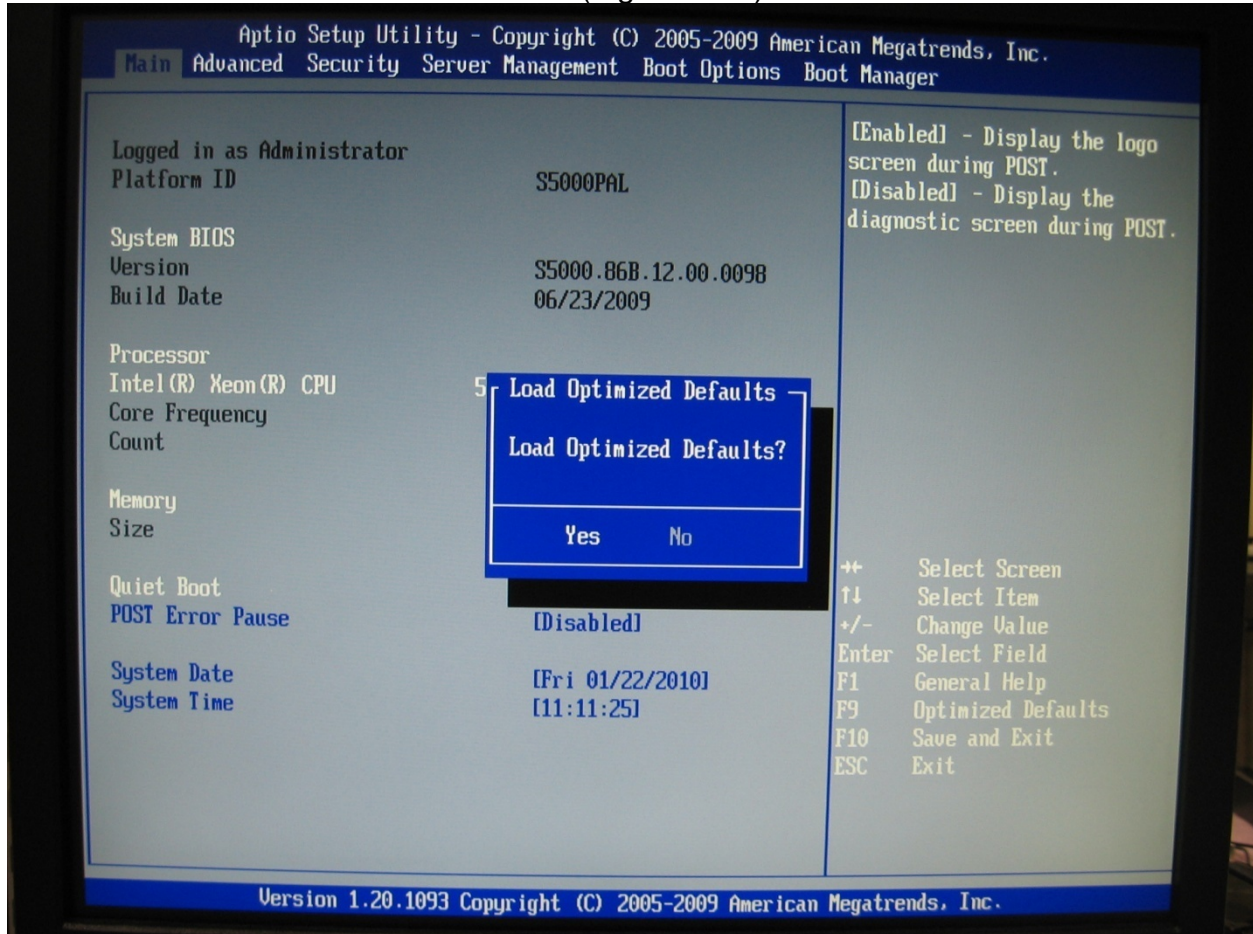

Figure 6-12 Load Optimized Defaults
- Back at the **Main Screen** press **F9**. On the drop down menu select and press **YES**. (Figure 6-12).